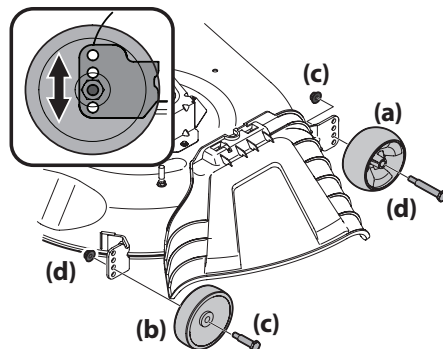

Figure 2-13
- Remove the front (a) and rear (b) deck wheels by removing the flange lock nuts (c) and shoulder bolts (d) that secure them to the deck. See Figure 2-13.